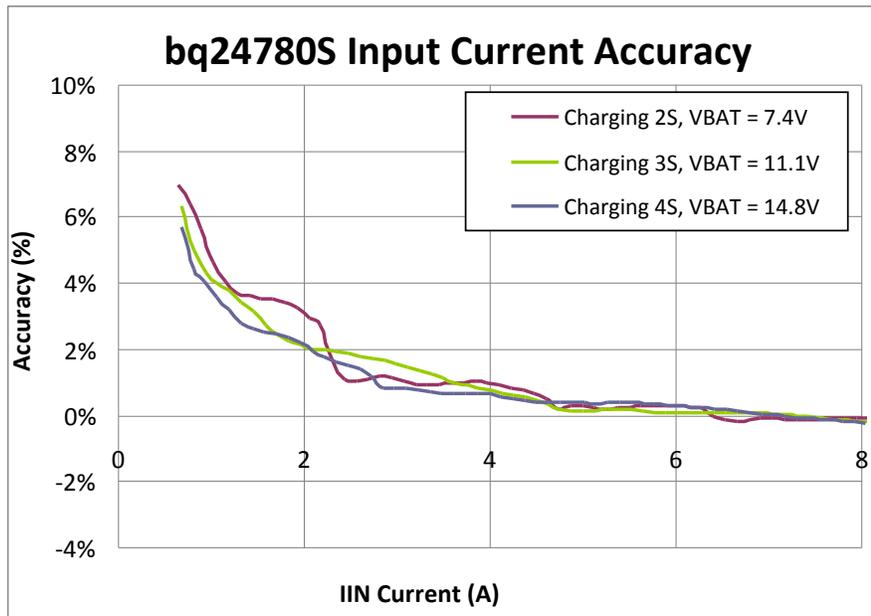

Figure 6. TIDA-00657 Input Current Accuracy
- Figure 6 shows the bq24780S input current accuracy at 25°C.